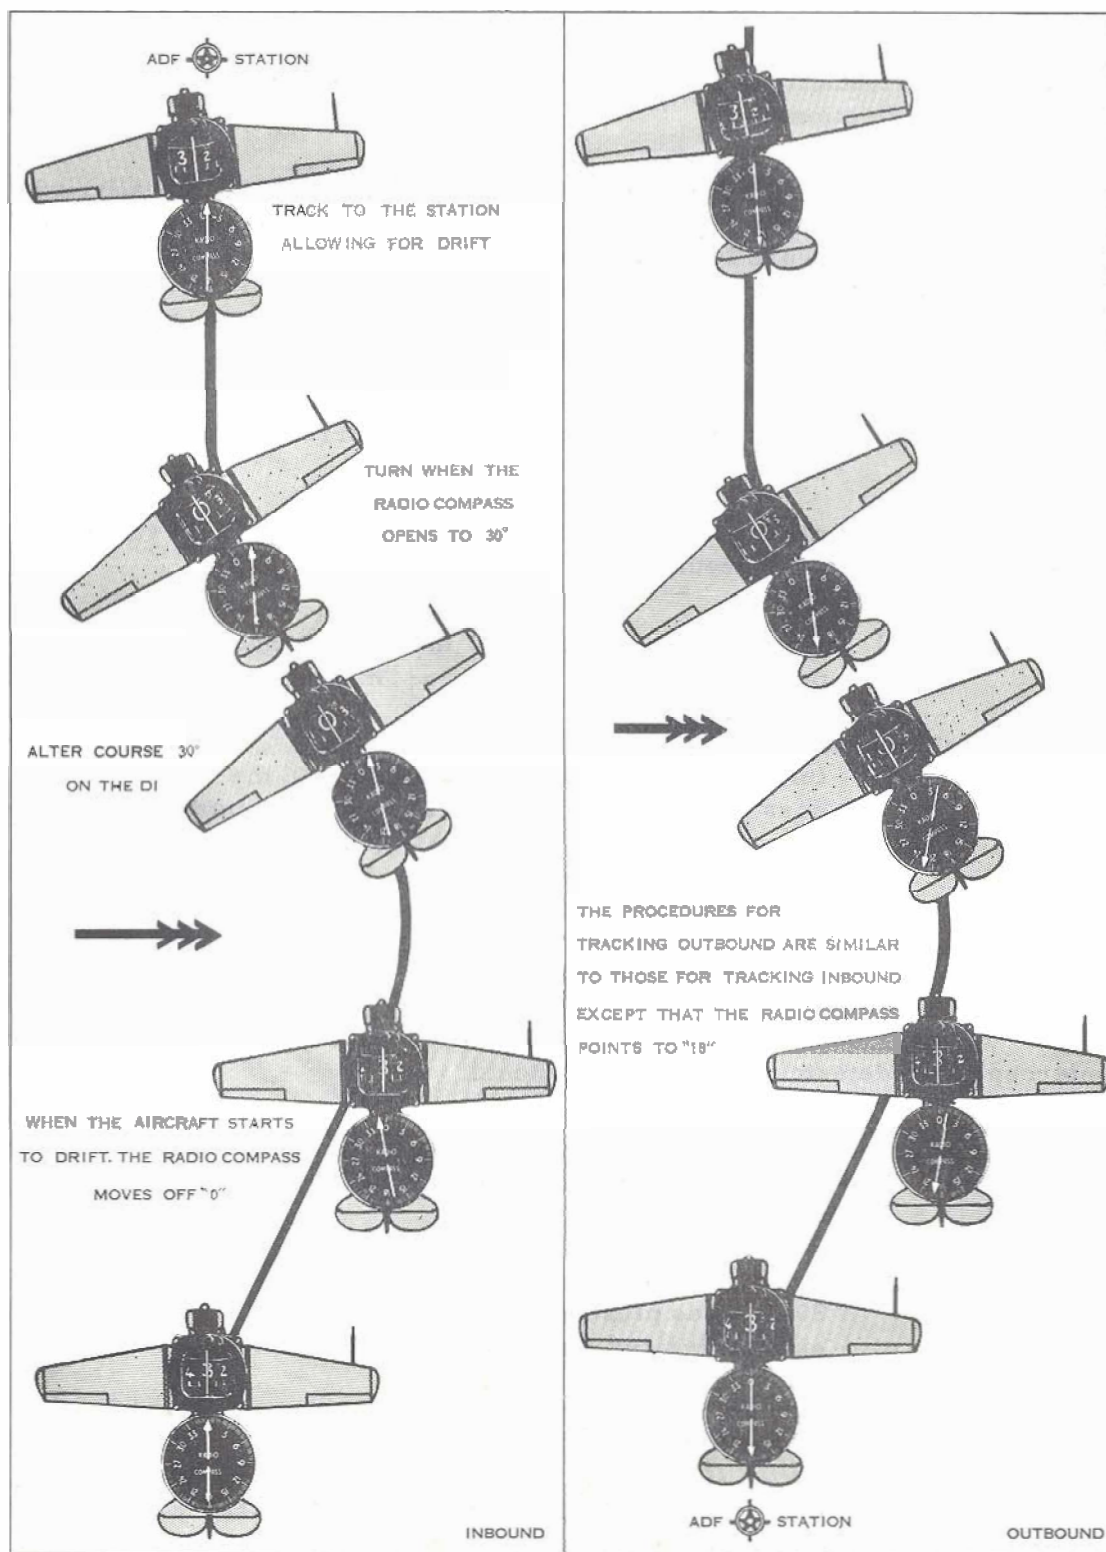

Figure 2: Tracking Procedures
- (g) Fly this new magnetic heading until the radio-compass needle opens 30 degrees. (Figure 2 opposite)
(3) Accuracy in estimating the amount of drift correction can only come from experience, but is based on the distance flown before the radio-compass needle begins to deviate. For example, if the radio-compass needle moves away from "0" only a short time after the heading has been set, there must be a strong wind blowing and, consequently, the allowance for drift must be in proportion. Once the allowance for drift has been made, the radio-compass needle no longer reads "0"; instead it should be reading an amount equal to the drift correction, but on the opposite side to the correction. (Figure 2)
(4) If, after regaining track and making an allowance for drift, you find that the radio-compass needle is moving towards "0", the correction has been too small. To regain track you must go through the whole procedure again, making a larger drift estimation. If the radio-compass needle is seen to be moving away from "0" however, indicating that there has been too great a drift correction, you may turn parallel to the desired track and hold this new heading until the aircraft drifts back onto track. When the radio-compass needle shows that track has been regained, you can make a smaller drift correction to maintain this heading. At all times the aircraft must be flown accurately, and you must remember to re-set the DI frequently if you wish to remain on track.
(5) TRACKING AWAY FROM A FACILITY - Tracking outbound is basically the same as tracking inbound, except that the radio-compass needle points to "18" since the facility is behind the aircraft. During "Station Passage" the radio-compass needle may fluctuate, making it impossible to take